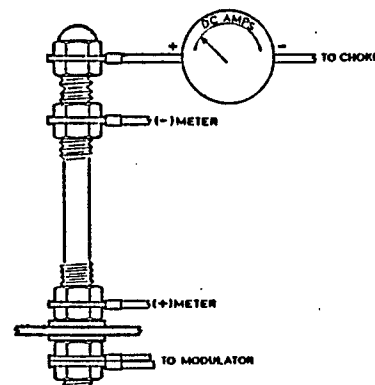

Figure 5-1 Current Shunt Resistor
- (g) Connect an ammeter between terminal 1 of current shunt resistor 5R1 and its associated choke (L1) as depicted in figure 5-1.
- (f) Connect an ammeter between terminal 1 of the current shunt resistor to be calibrated and its associated choke (L1) as depicted in figure 5-1.